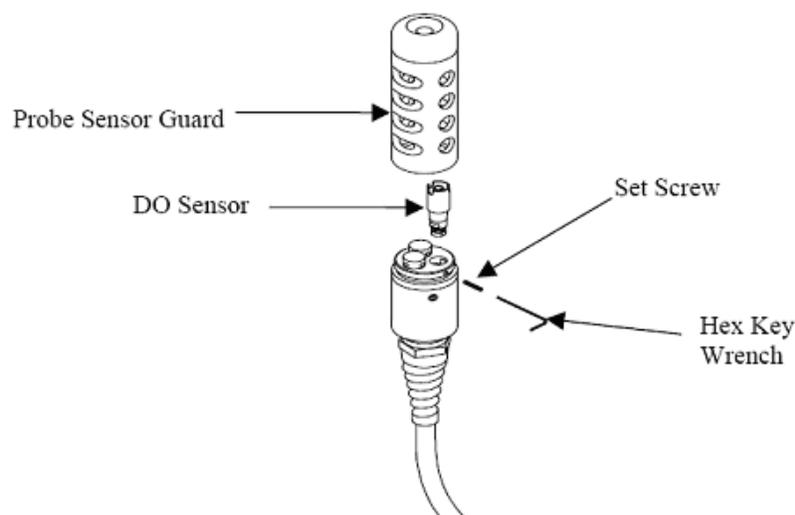

Figure 6. DO Sensor Replacement
2. Insert the long end of the hex key wrench (should be in the supplies received with the YSI. See Figure 6) into the small hole in the side of the cable assembly, near the DO port. Turn the small wrench counter clockwise to remove the hex screw. You do not have to remove the screw completely to pull out the DO probe.